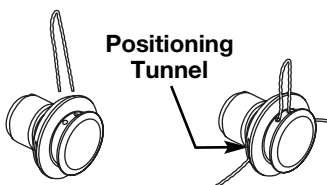

Fig. 8
4. Insert both ends of your line through the proper holes in the side of the cutting head (Fig. 8).